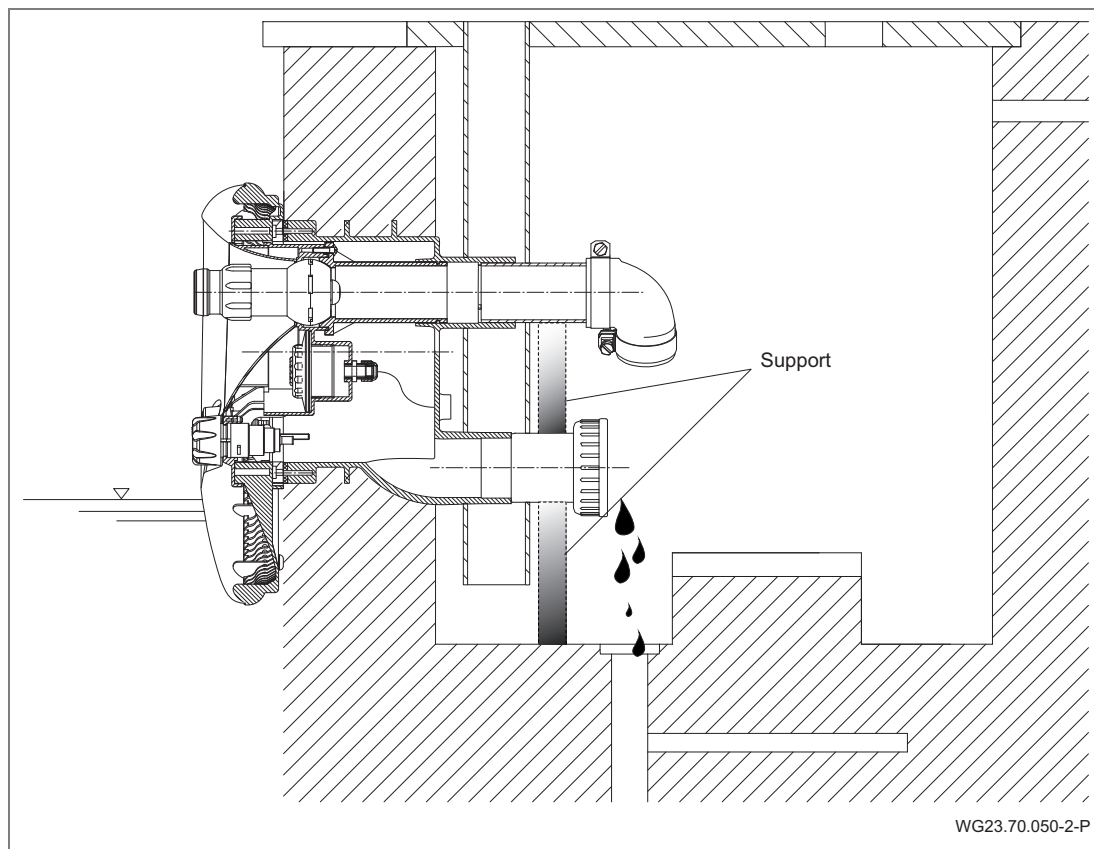

Fig. 28
3. Support the suction and pressure lines to relieve them. See "Fig. 28" on page 46.